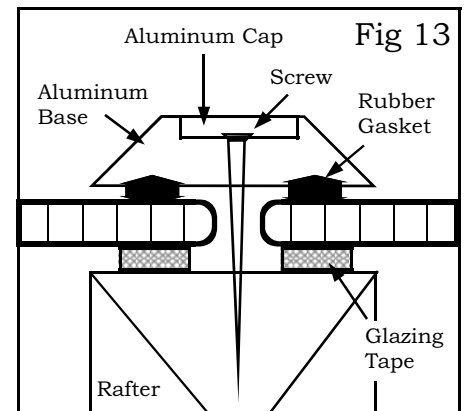

Fig 13
B. For framing with two panels (fig 13):